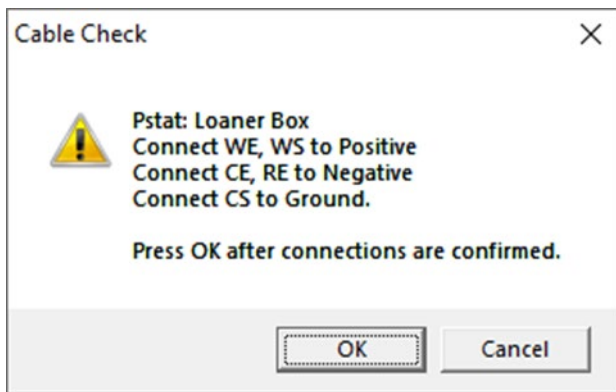

Figure 3- the "Cable Check" dialog box which helps ensure the leads are connected properly based on the Cell Type selected on Page 1 of the setup screen
- g. Cable check should be on to make sure your leads are going to the correct terminals. Click “OK” to bring up the Cable Check dialog box. See figure 3